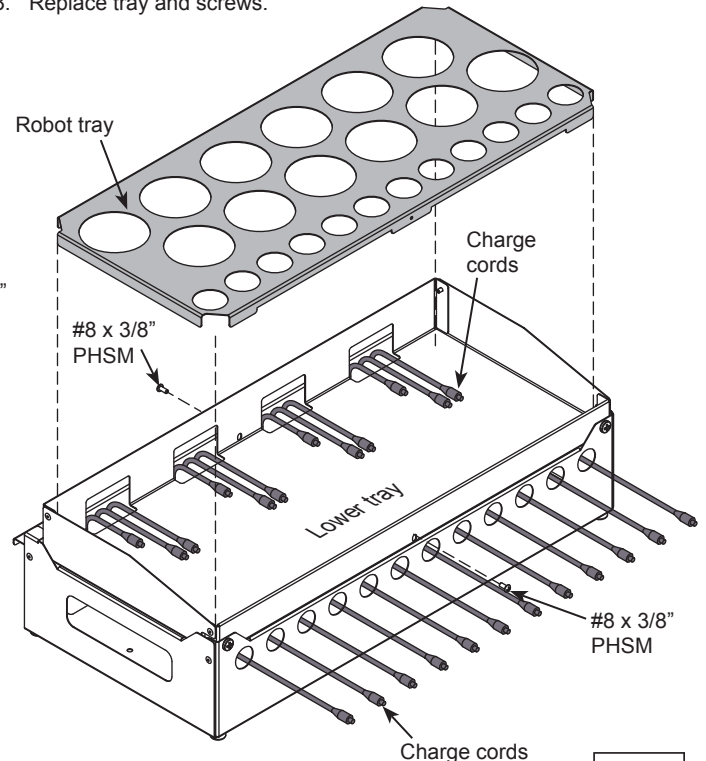

Figure 2
1. Remove (2) #8 x 3/8" PHSM screws and remove robot tray.
2. Route charge cords through the openings in the module. Be sure to leave enough slack in the cords to reach all robots in the tray. **Figure 2.**